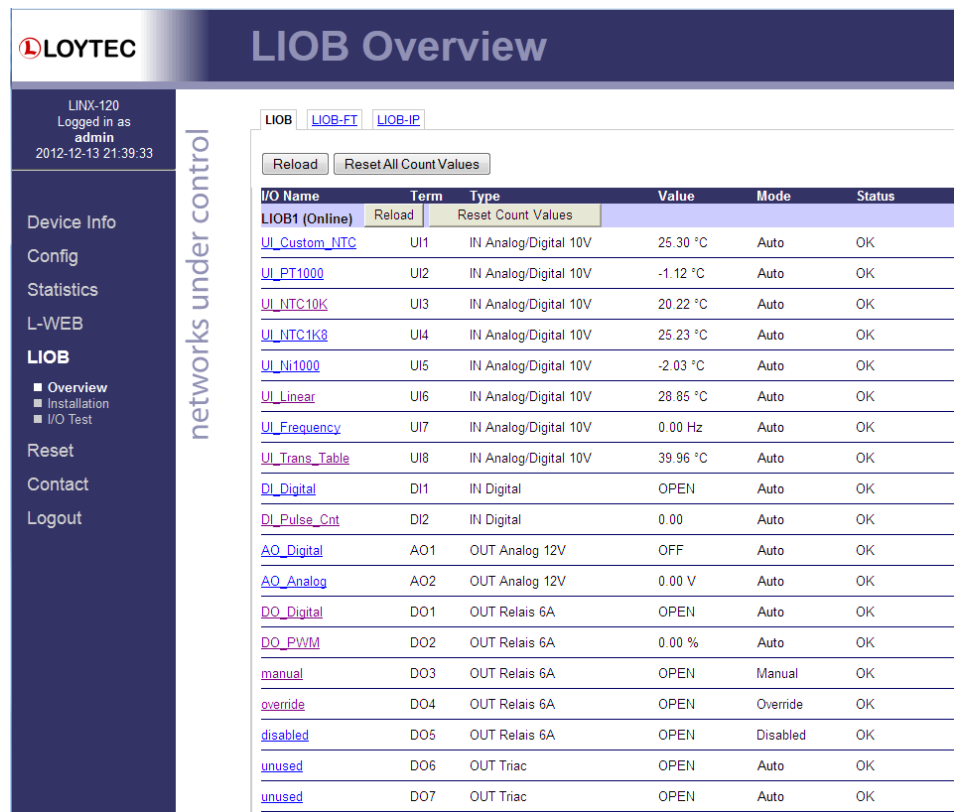

Figure 5: Checking L-IOB inputs and outputs on the Web UI
5. After downloading the configuration into the L-INX device, the L-IOB inputs and outputs can be checked with the L-INX Web UI. An example is shown in Figure 5.